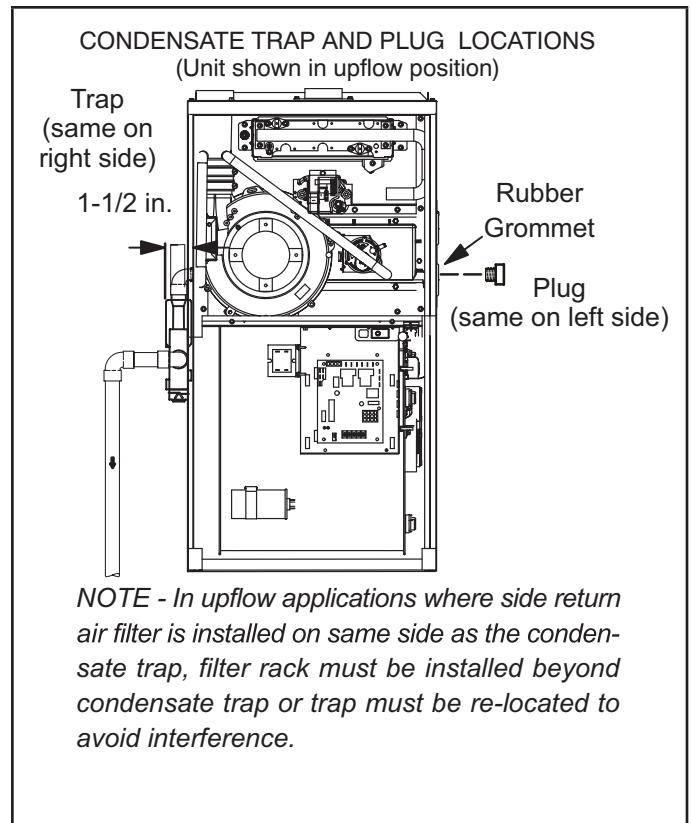
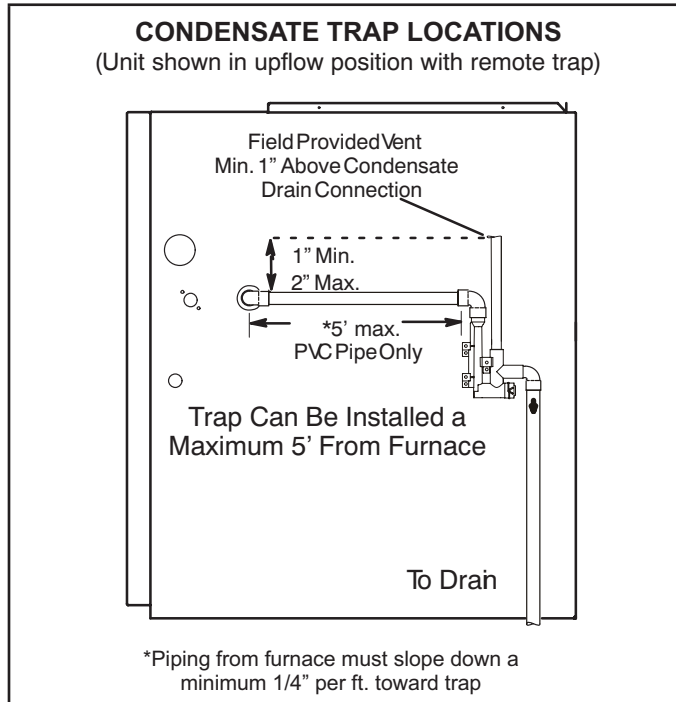
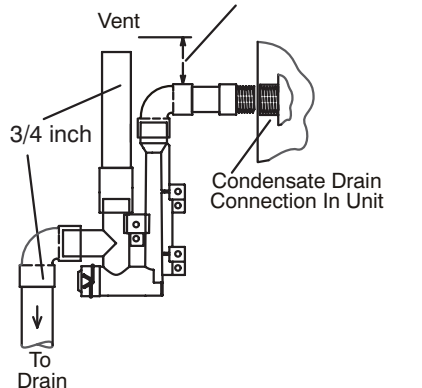

Figure 45
Figure 47
Figure 53
This unit is designed for either right- or left-side exit of condensate piping in upflow applications. In horizontal applications, the condensate trap must extend below the unit. An 8" service clearance is required for the condensate trap. Refer to Figure 45 and Figure 47 for condensate trap locations. Figure 53 shows trap assembly using 1/2" PVC or 3/4" PVC.
- 2 - Use a large flat head screw driver or a 1/2" drive socket extension and remove plug (Figure 45) from the cold end header box at the appropriate location on the side of the unit. Install provided 3/4 NPT street elbow fitting into cold end header box. Use Teflon tape or appropriate pipe dope.
- 3 - Install the cap over the clean out opening at the base of the trap. Secure with clamp. See Figure 53.
- 4 - Install drain trap using appropriate PVC fittings, glue all joints. Glue the provided drain trap as shown in Figure 53. Route the condensate line to an open drain. Condensate line must maintain a 1/4" downward slope from the furnace to the drain.